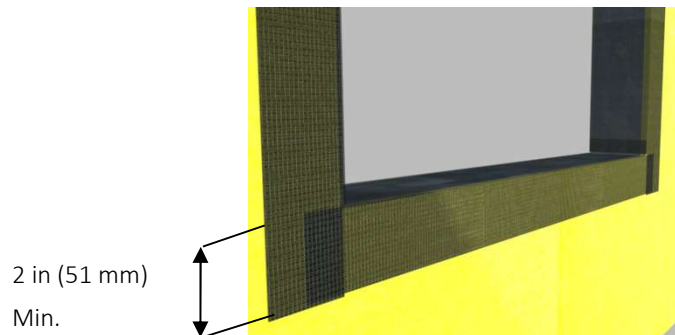

Fig. 3
- 4) Install the AquaFlash System at the jambs in the same manner overlapping onto the sill material a minimum of 2 in (51 mm) – **Figure 3**.